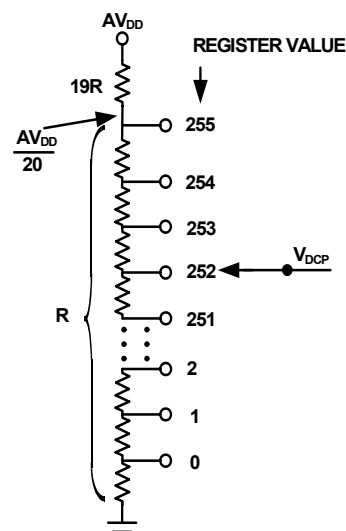
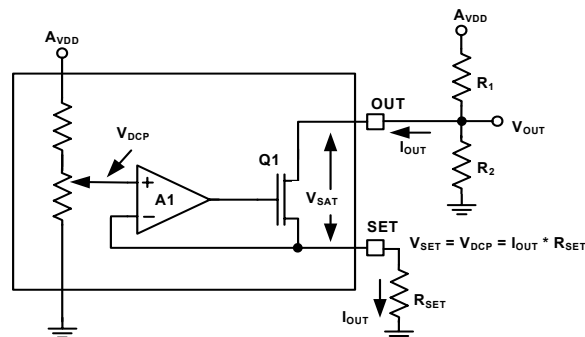

FIGURE 4. SIMPLIFIED SCHEMATIC OF DCP
FIGURE 5. CURRENT SINK CIRCUIT
**Electrical Specifications** Test Conditions: VDD = 3.3V, AVDD = 18V, RSET = 5k $\Omega$ , R1 = 10k $\Omega$ , R2 = 10k $\Omega$ , (See Figure 5). Typical values are at TA = +25°C. **Boldface limits apply over the operating temperature range, -40°C to +85°C.**
**Electrical Specifications** Test Conditions:  $V_{DD} = 3.3V$ ,  $AV_{DD} = 18V$ ,  $R_{SET} = 5k\Omega$ ,  $R_1 = 10k\Omega$ ,  $R_2 = 10k\Omega$ , (See Figure 5). Typicals are at  $T_A = +25^\circ C$ . **Boldface limits apply over the operating temperature range,  $-40^\circ C$  to  $+85^\circ C$ . (Continued)**
The ISL24202 uses a digitally controllable potentiometer (DCP), with 256 steps of resolution (Figure 4) to change the current drawn at the OUT pin, which then changes the voltage created by the  $R_1 - R_2$  resistor divider (Figure 5). The OUT voltage can then be buffered by an external amplifier (A2) to generate a buffered output voltage ( $V_{COM}$ ) capable of driving the  $V_{COM}$  input of an LCD panel. The amount of current sunk is controlled by the setting of the DCP, which is recalled at power-up from the ISL24202's internal EEPROM. The EEPROM is typically programmed during panel manufacture. As noted in the "Electrical Specifications" section on page 4, the ISL24202 requires a minimum  $AV_{DD}$  voltage of 10.8V for EEPROM programming, but will work in normal operation down to 4.5V after the EEPROM has been programmed, with no additional EEPROM writing.
The DCP controls the voltage that ultimately controls the SET current. Figure 4 shows the relationship between the register value and the DCP's tap position. Note that a register value of 0 selects the first step of the resistor string. The output voltage of the DCP is given in Equation 1:
Figure 5 shows the schematic of the OUT current sink. The combination of amplifier A1, transistor Q1, and resistor  $R_{SET}$  forms a voltage-controlled current source, with the voltage determined by the DCP setting.